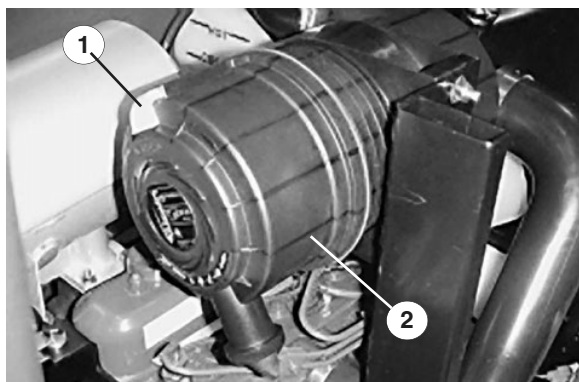

Figure 22
1. Pull the latch outward and turn the air cleaner cover counter-clockwise. Remove the cover from the body (Fig. 22). Clean the inside of the air cleaner cover.